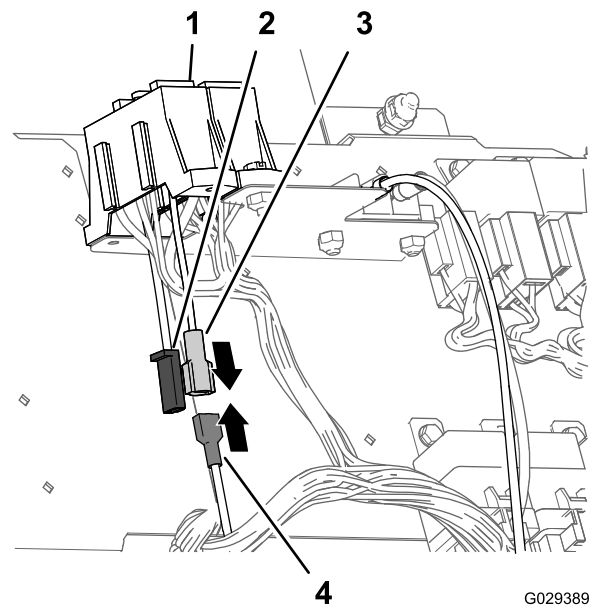

Figure 20
1. For a machine with the bladed-attachment connector at the fuse block for the machine, connect the blade connector of the wiring harness for the finishing kit to the socket connector of the fuse block for the machine (Figure 20).